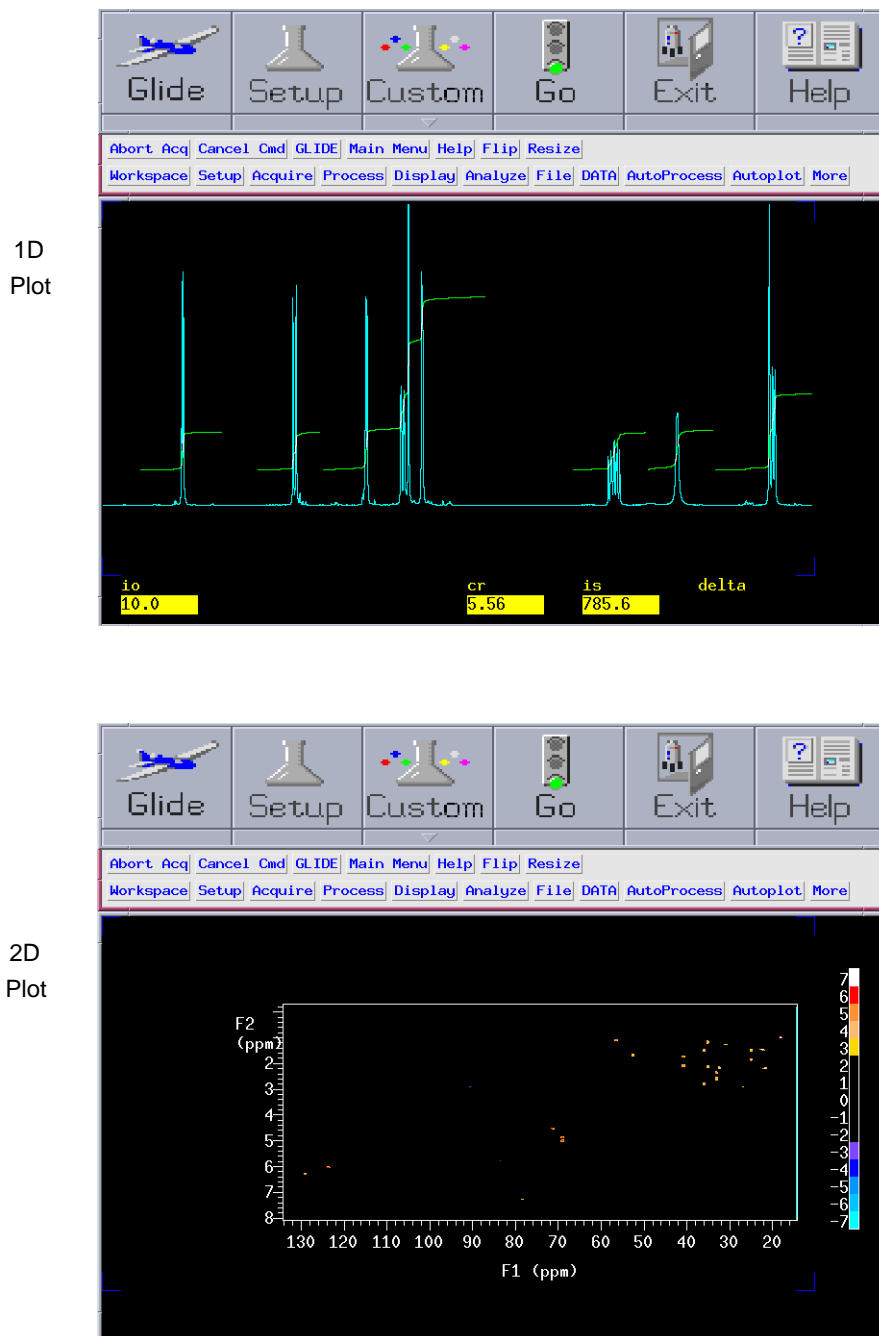

Figure 78. Plotting from *GLIDE*
- Click the Autoplot button (Figure 78). This generates a 1D plot or 2D plot. 2D plots are plotted with appropriate high-resolution 1D spectra and/or skyline projections.